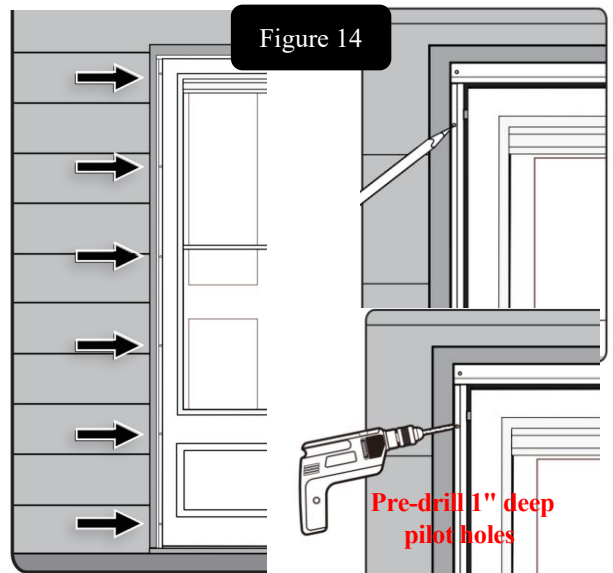

Figure 14
**Step 4:** Use a pencil to mark the positions where holes are to be drilled. Use drill bit to pre-drill and long white screws to fasten latch rail to mounting surface. (Figure 14)